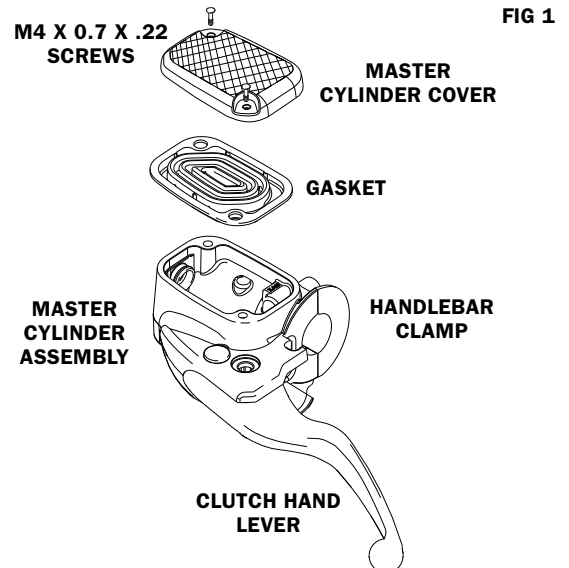

FIG 1
**STEP 5** Refer to FIG 1. Align and place the gasket on the master cylinder assembly.